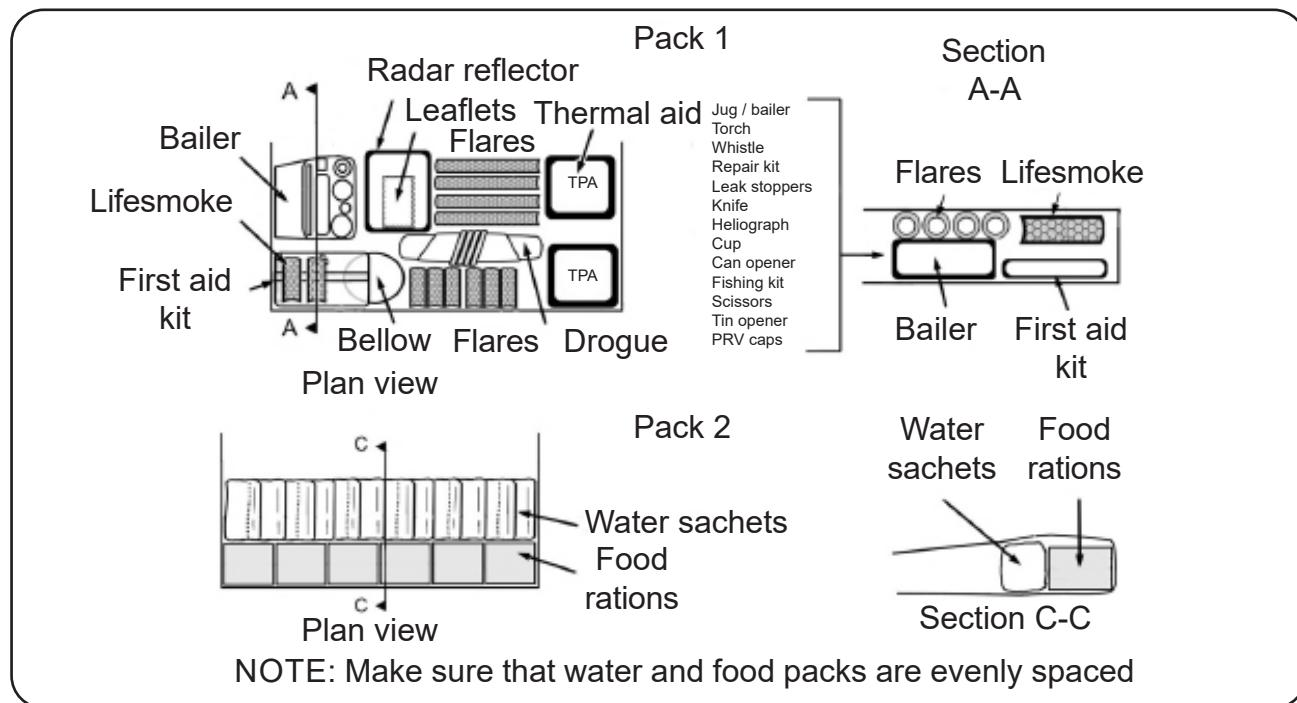

FIGURE 708
3.2.2 Place the items into the valises as shown in FIGURES 708 or 709.
3.2.6 Pack 1, the plan view and section view AA, shows the position and layout of the equipment. Refer to FIGURES 708 or 709.
(a) If packing for a 4, 6 or 8 Person refer to FIGURE 708.